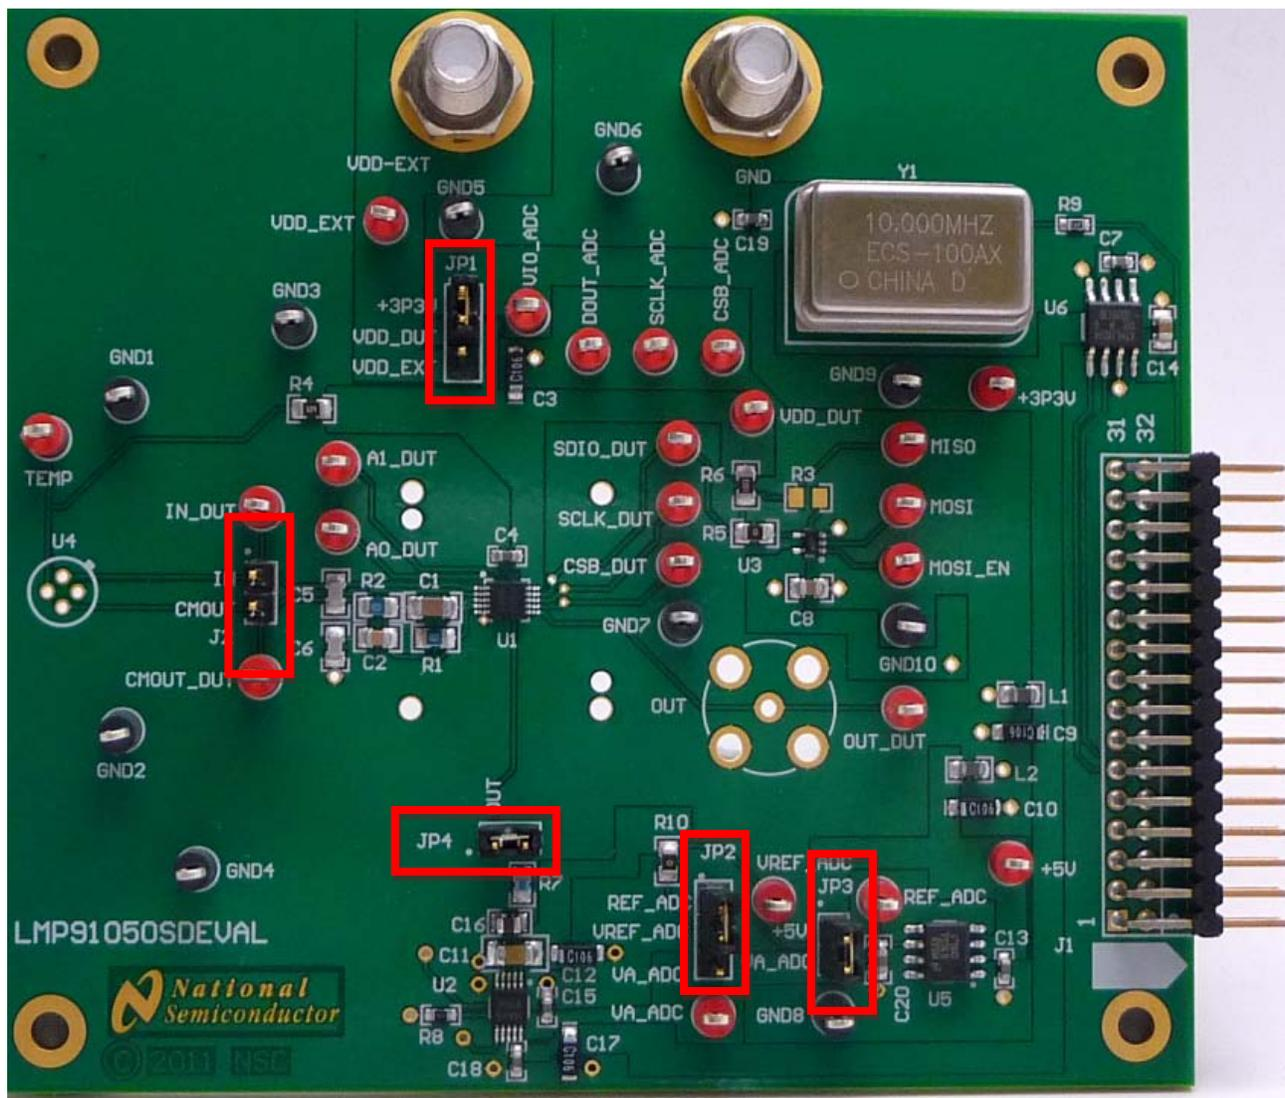

Figure 3 – Jumper Settings (Default) for voltage reading
1. The jumpers for this example application can be seen in Figure 3 and Table 1